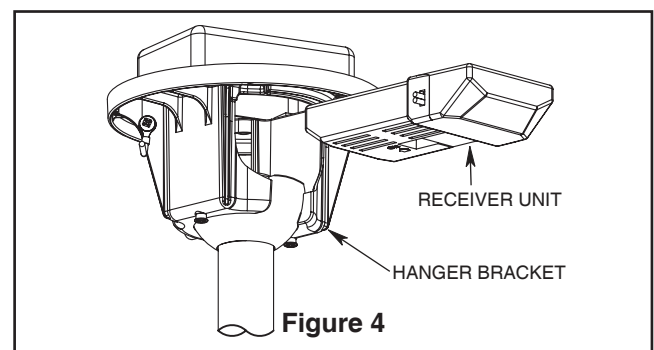

Figure 4
3. Slide the receiver unit into the open end of the hanger bracket (Figure 4).